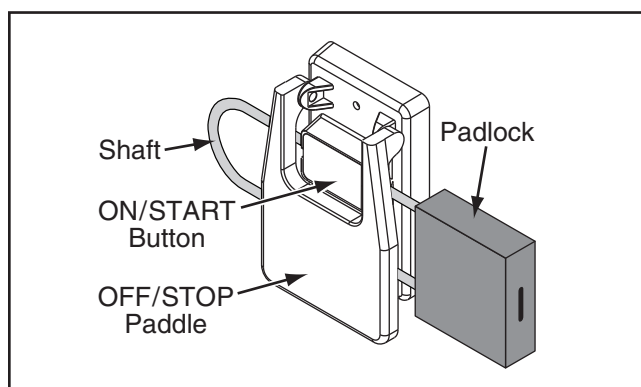

Figure 29. Padlock inserted through ON button.
7. Insert the padlock shaft through the ON button, as shown in **Figure 29**.